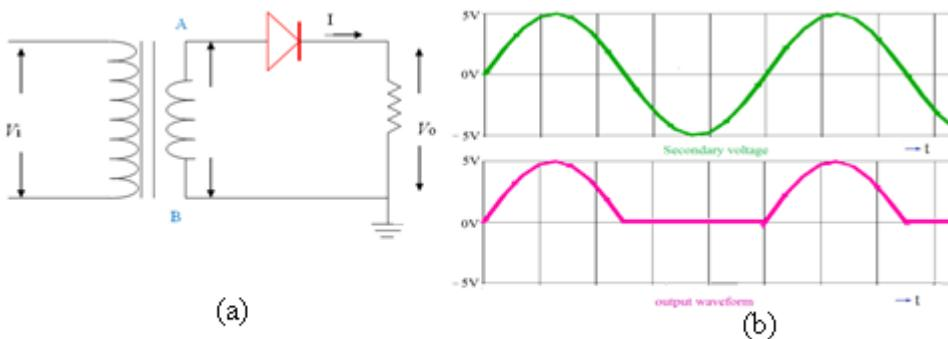

Figure 1.2.7: (a) Half wave rectifier circuit (b) Rectified output waveform
For simplicity it is assumed that the diodes are ideal, and is represented as an open circuit when reversed biased and short circuit when forward biased. The circuit diagram of half wave rectifier and rectified output waveform with respect to secondary voltage waveform is as shown in Figure 1.2.7(a) and (b) respectively.
2. In the circuit of figure 1.2.7 what happens when the diode connection is reversed? Draw the input and output waveforms. Will the values of PIV, ripple factor and efficiency for this circuit change?